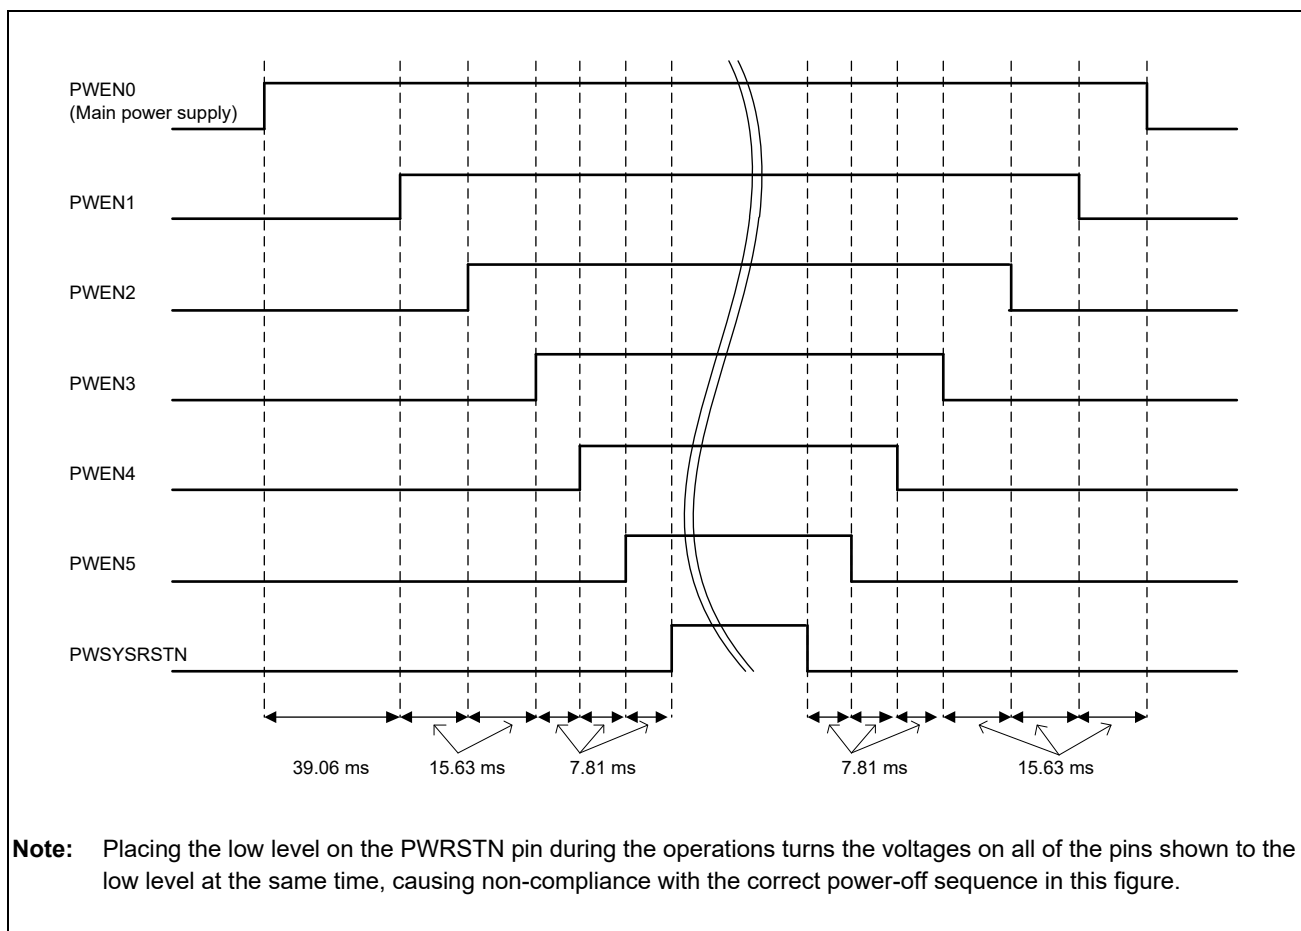

Figure 36.5-2 Timing of the Outputs from the PWENn (n: 0 to 5) and PWSYSRSTN Pins
**Figure 36.5-2** shows the timing of the outputs from the PWENn (n: 0 to 5) and PWSYSRSTN pins.